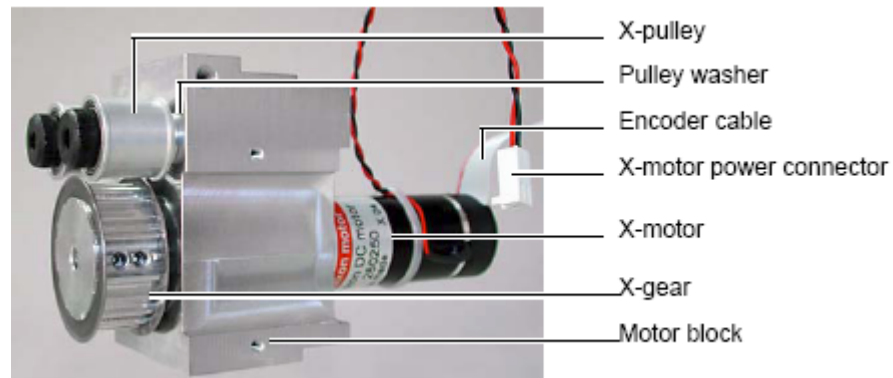

Figure 9.15 X-Motor Assembly
8. Dismount the two X-pulleys and the washers from the motor block (see Figure 9.15 „X-motor assembly“).
2. Mount the X-motor on the motor block with the two screws. Make sure that the flat ribbon cable points towards the X-pulley bores (see Figure 9.15 „X-motor assembly“).